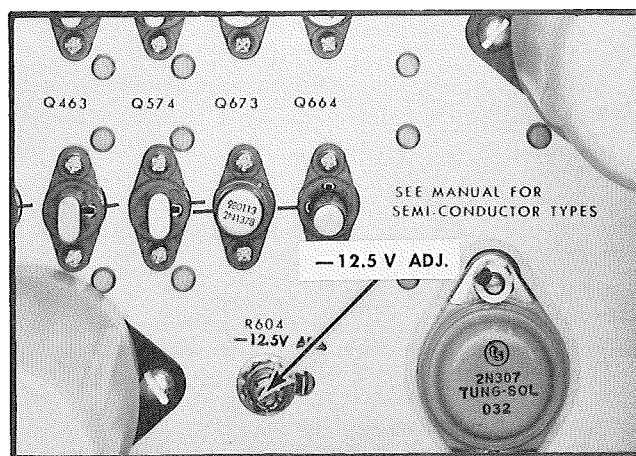
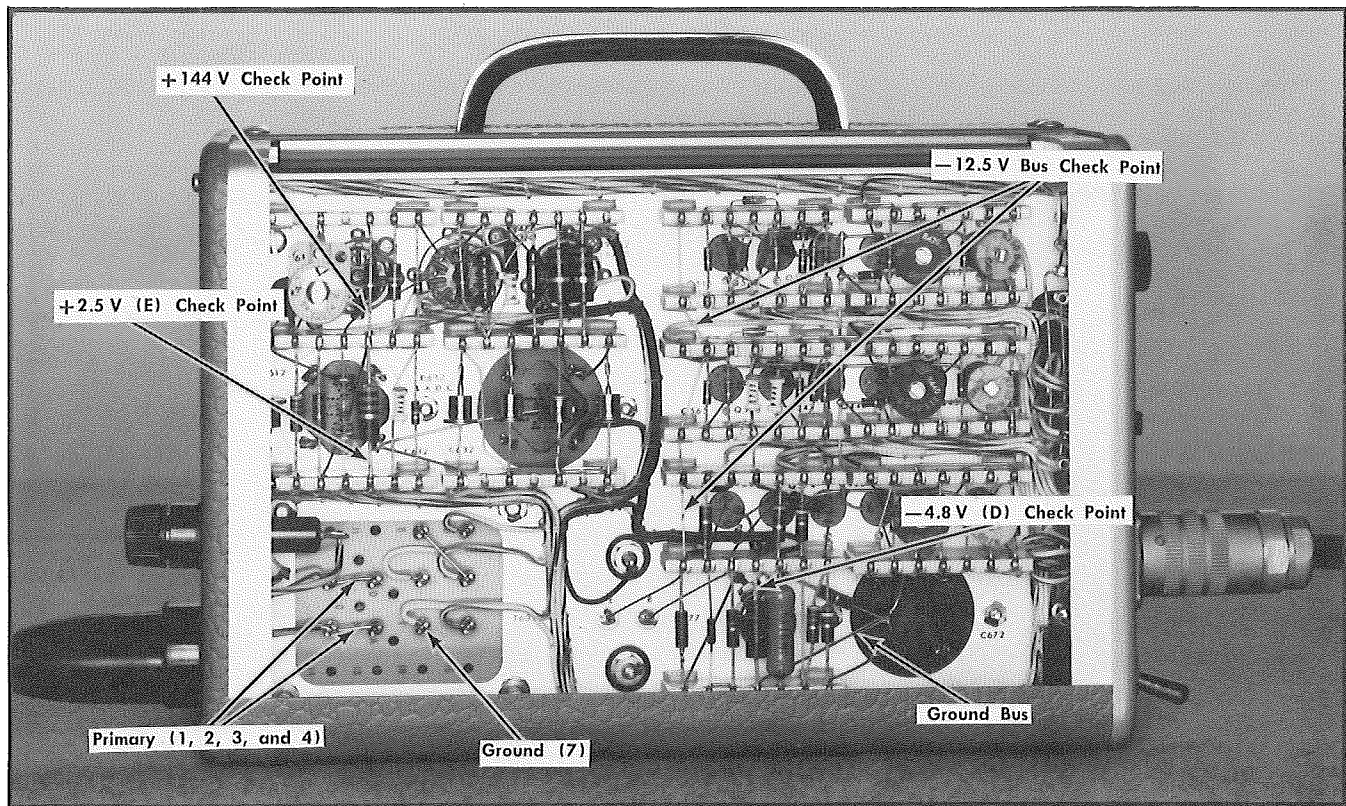
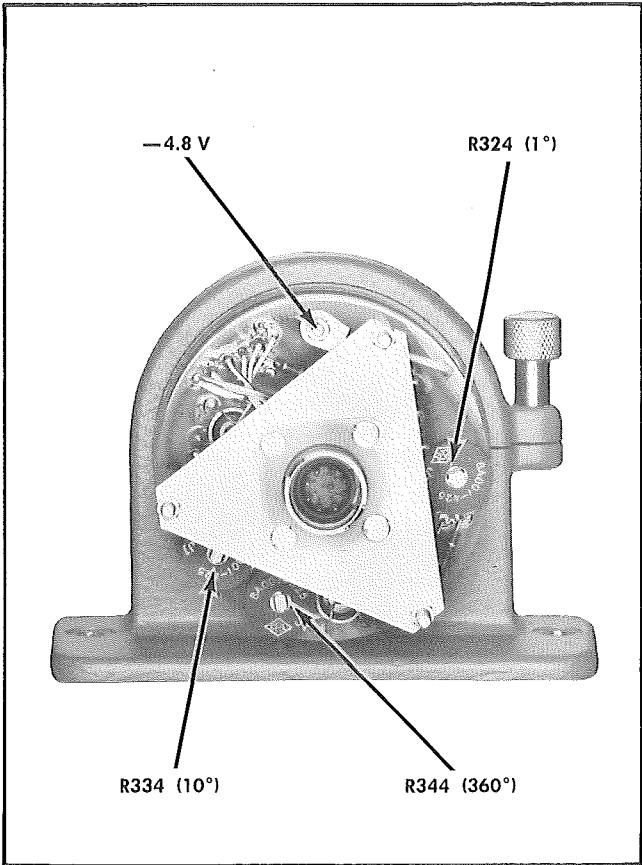

Fig. 6-1. Location of -12.5 V. Adj. control on right side of Type 183B Analyzer.
Fig. 6-2. Voltage Check Points on left side of Type 183B Analyzer.
Fig. 6-4. Internal adjustments in Type 182B Transducer.
3. Measure the resistance-to-ground values of the power supply leads. See Fig. 6-2 for the locations of the voltage check points. The transformer primary should have infinite resistance to ground, the +144-volt supply should be approximately 4 K to ground, and the -12.5-volt lead should be about 17 Ω to ground.
Connect the dc voltmeter to the —12.5-volt bus wire on the left side of the Type 183B (Fig. 6-2) and to the chassis (or ground) of the Analyzer. Check for exactly —12.5 volts, and adjust with the —12.5 V. ADJ. control on the right side of the Type 183B (Fig. 6-1).
Beginning with the 1° channel, attach the probe pincer tip to the bus wire connecting the emitters of Q415 and Q425. This is the 1° Test Point (see Fig. 6-2). Attach the ground lead of the probe to the chassis or to a ground lead in the Type 183B. Adjust the triggering, intensity and focusing controls for an adequate display, then position the trace so that the amplitude of the pulses may be measured. If there is no vertical deflection, or if the waveshape is flattened at the top or bottom, adjust R324 in the Transducer (Fig. 6-4) to obtain the normal "sine wave" form. Fig. 6-4 shows typical Transducer output waveforms.